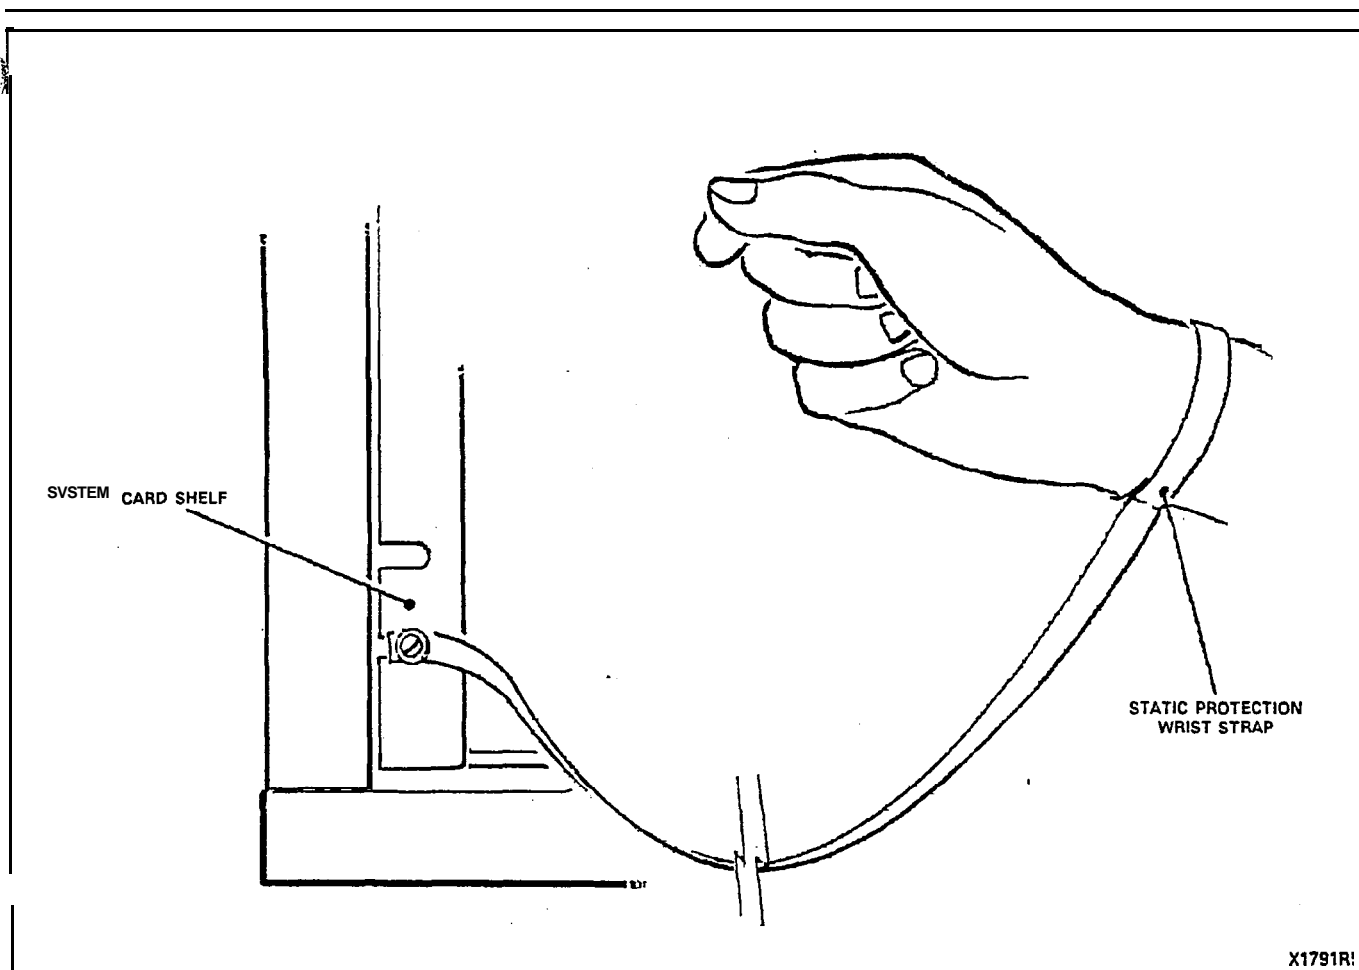

Figure 12-1 Static Protection Ground Strap
- (b) Handle PCB cards, as far as is practicable, only by the edges and avoiding contact with any exposed electrical connections. When removing a new card from its package, touch the ground bar first to equalize any static voltage buildup, prior to inserting it in the equipment. A wrist ground strap should be worn (Figure 12-1), but failing availability, ensure that one hand is grounded to the system cabinet immediately prior to removing or inserting a PCB card.